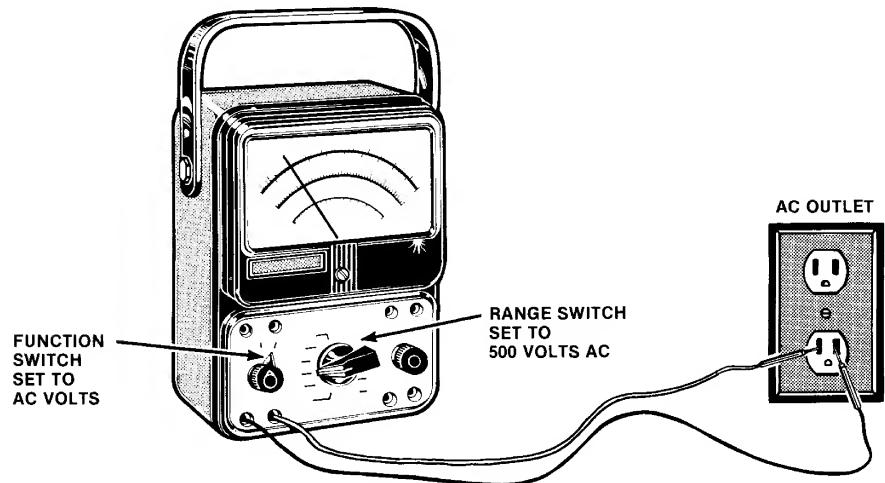

Figure 1-2 AC Line Voltage Check
1. Measure AC line voltage with an AC voltmeter as shown in Figure 1-2.